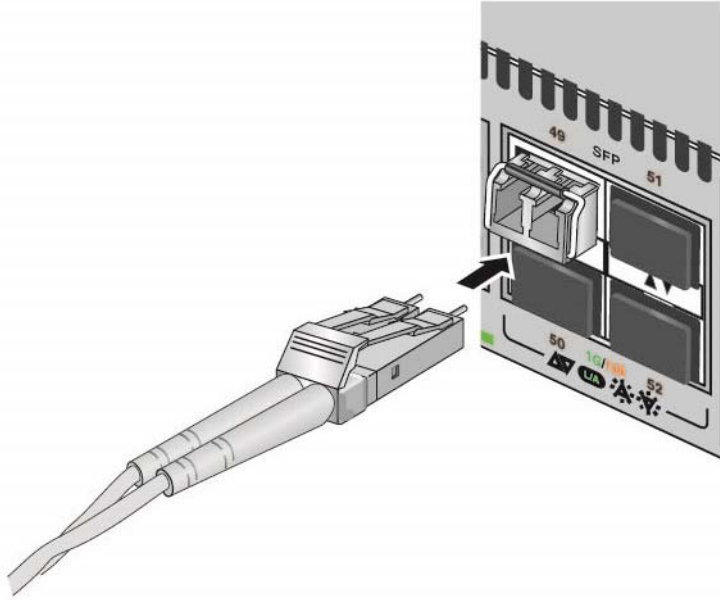

Figure 34. Connecting a Fiber Optic Cable to an SFP Transceiver
8. Connect the fiber optic cable to the transceiver, as shown in Figure 34 on page 75. The connector on the cable should fit snugly into the port, and the tab should lock the connector into place.